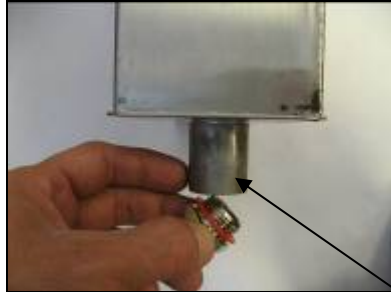

Figure 2: Pouring flushing fluid into the MIT
7. Pour approximately ½ liter of flushing fluid into the MIT (Figure 2, page 4).